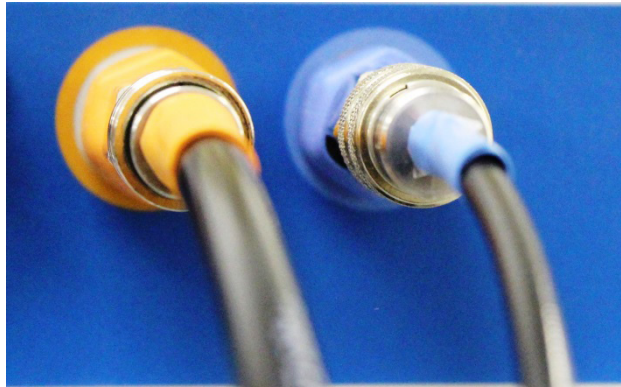

Figure 13: Color Coded Pneumatic Connectors
3. Insert the corresponding connections on the pneumatic connectors as shown below in Figure 13. The sliding ring will need to be manually pushed-in on the orange connector.